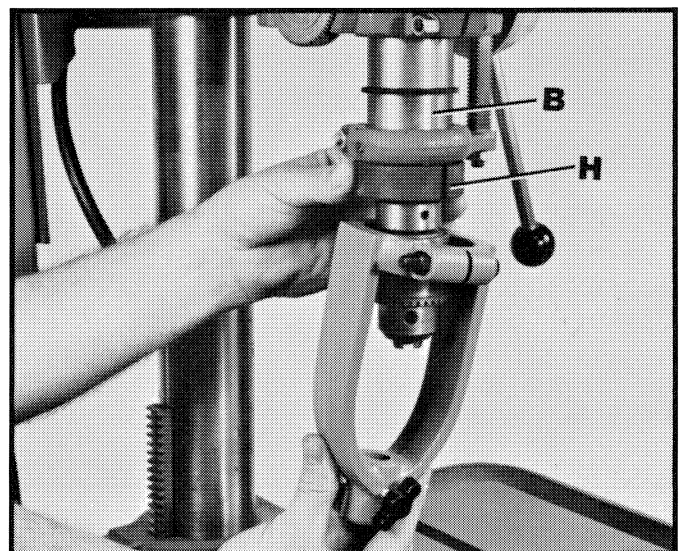

Fig. 7
4. Assemble the largest inside diameter split-ring bushing (H) Fig. 7, supplied, around the quill (B) as shown.